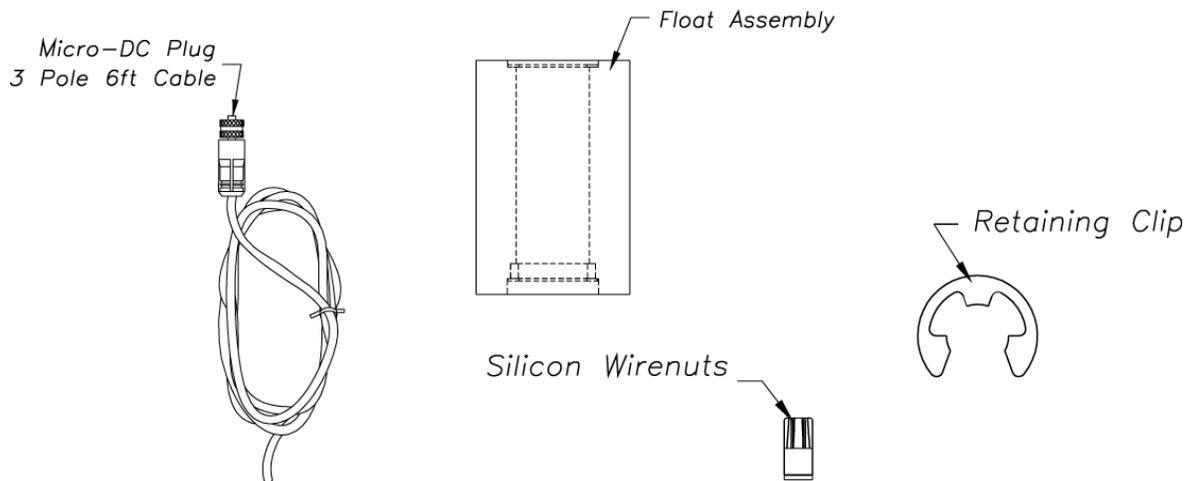

Figure 24-2 What's Supplied in the 20-1511 Kit
24.2 30-1511 Probe Kit (Figure 24-2) Contents